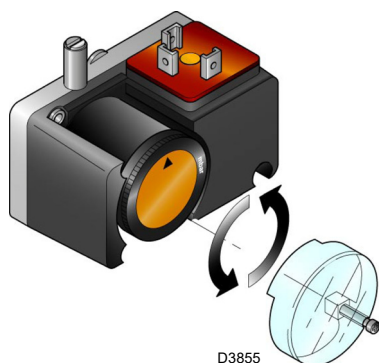

Fig. 33
- Adjust the minimum gas pressure switch (Fig. 33 at page 34) to the start of the scale.
Adjust the minimum gas pressure switch (Fig. 33) after having performed all other burner adjustments with the pressure switch set to the start of the scale.